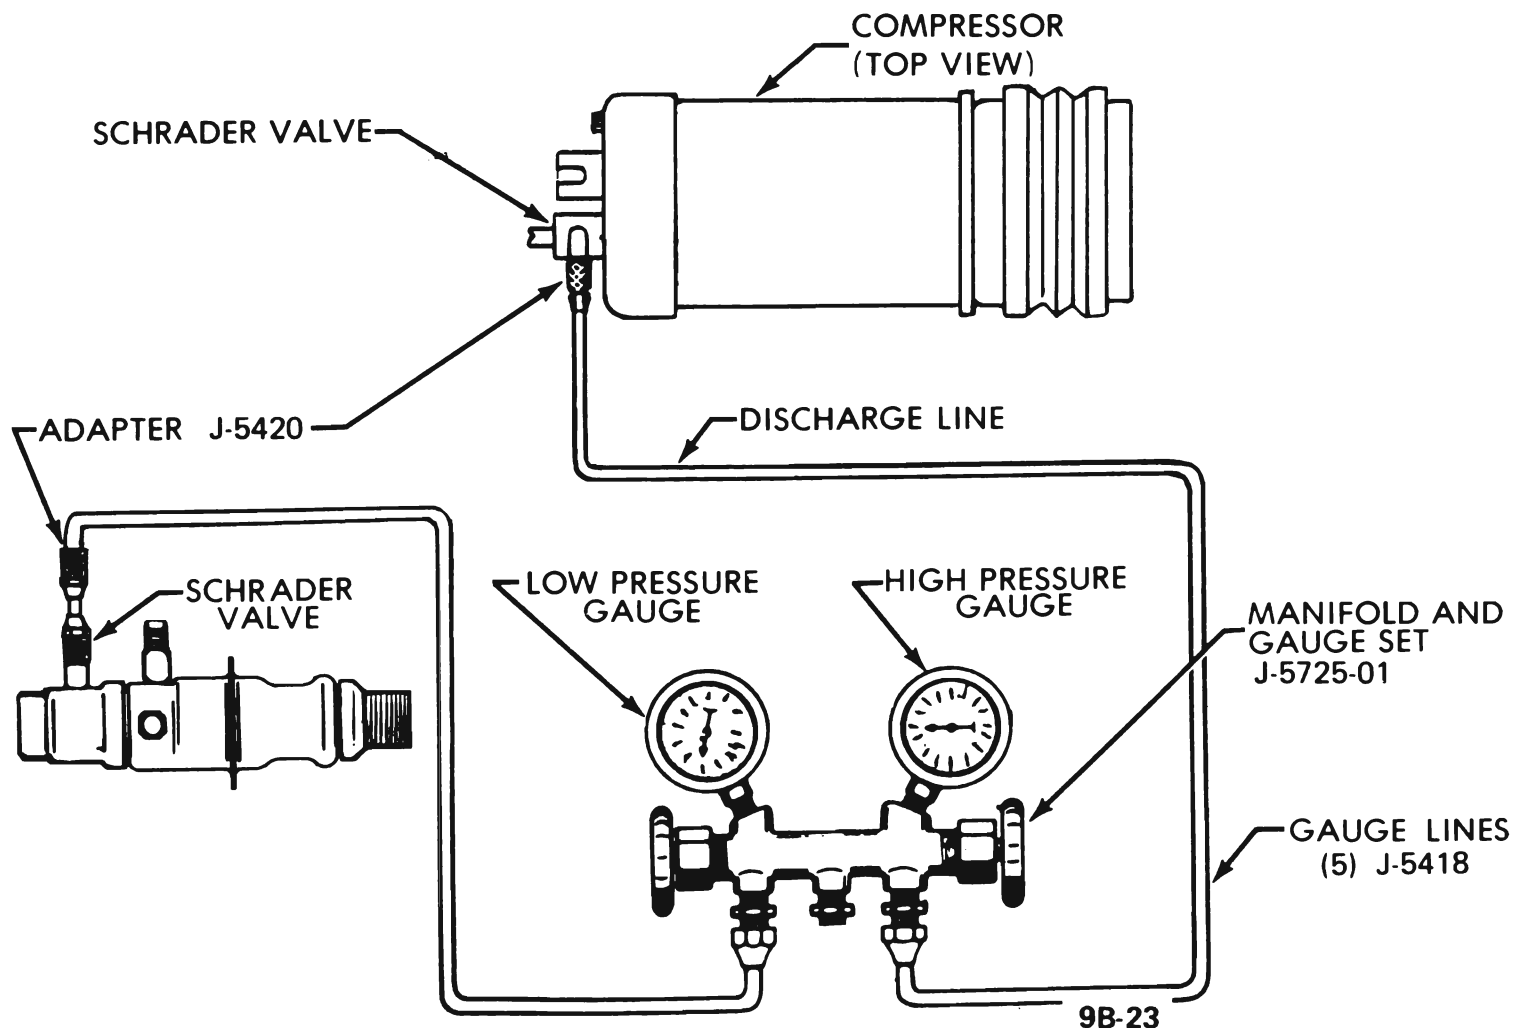

Figure 9B-25 Set-Up for Discharging System
Disconnect electrical connector from thermal limiter assembly. Insert a jumper wire between terminals B and C of connector if compressor operation will be required prior to refrigerant system being fully charged. See Figure 9B-16.
2. With both valves on manifold gauge set (J-5725-04) closed (clockwise), attach manifold to the P.O.A. valve and compressor, using J-5420 valve adapter at suction gauge fitting and J-9459 valve adapter at discharge gauge fitting. See Figure 9B-25.